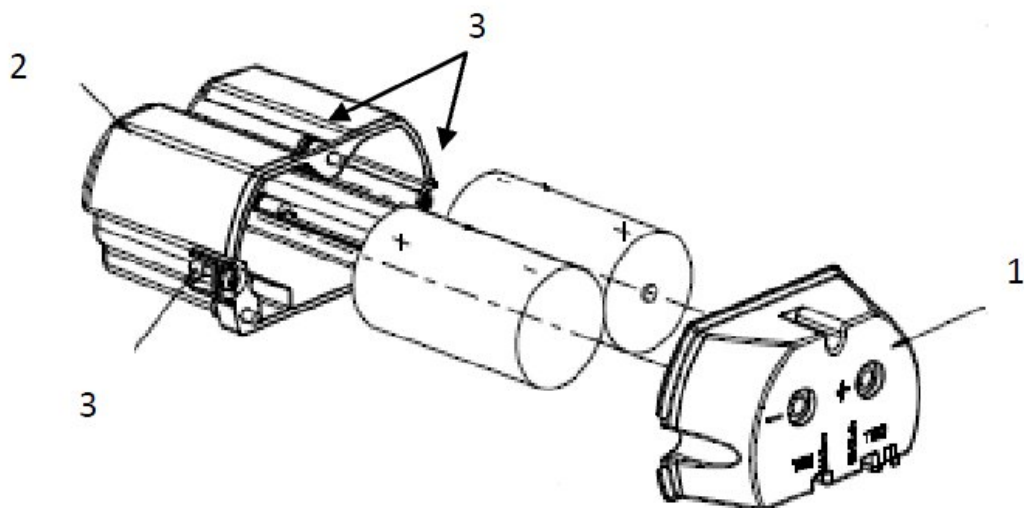

Figure 8: IS Battery Pack
- 6 Remove top of battery pack by using a #1 Philips or 1/8" slotted screwdriver for the screws identified as #3 in Figure 8.
- 10 Insert the Battery pack into the transmitter. Reattach the screws as indicated in Figure 8, item 3, to 0.4 to 0.6 N-M (3.5 – 5.3 Lb-in).